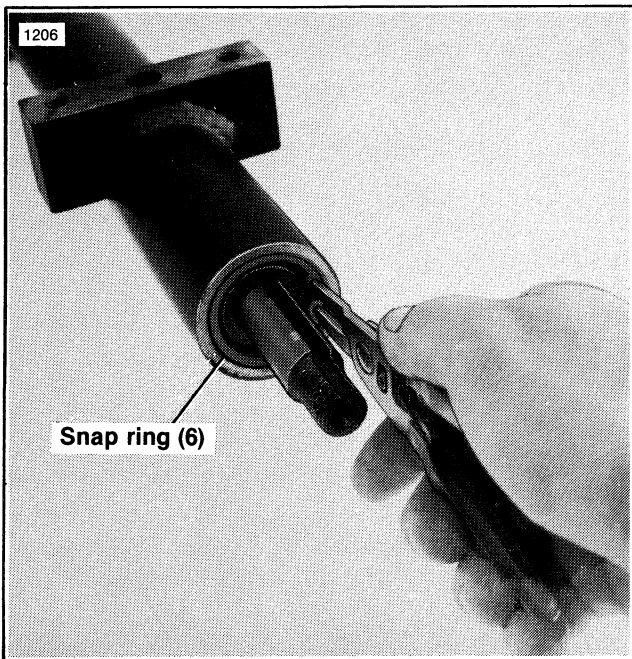
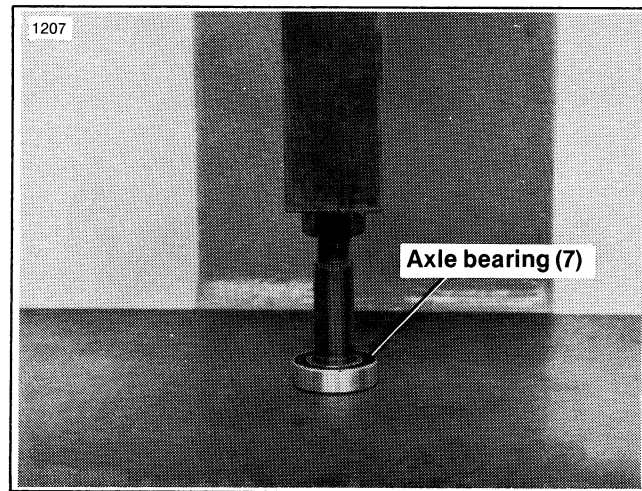

Figure 3-4. Removing Snap Ring
Figure 3-5. Pressing Bearing Off Axle
8. Remove snap ring (6) from axle housing (Figure 3-4).
9. Axle shaft (10), with axle bearing (7) attached, can be removed from the housing with an axle puller.
10. Axle bearing (7) can be pressed from axle shaft (10) by supporting bearing inner race on press bed and applying pressure to the axle nut on end of shaft (Figure 3-5).
4. Install snap ring (6) (Figure 3-4).